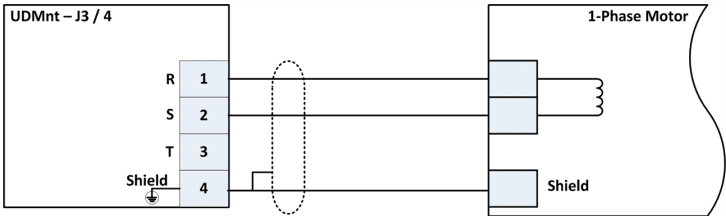
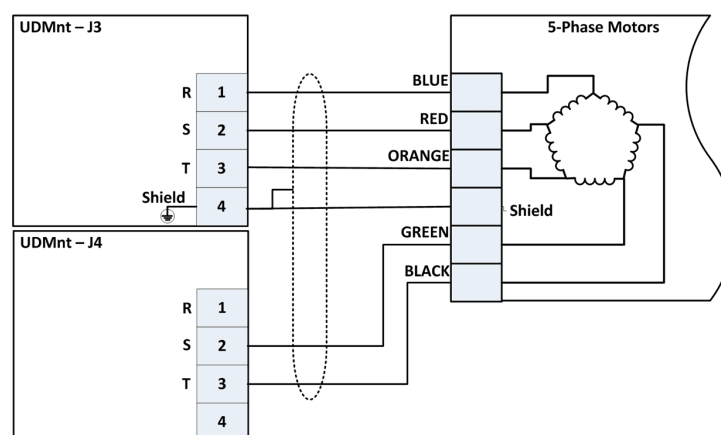

Figure 4-6. Single-Phase Motors (DC brush, Voice coil) Connections
Figure 4-9. Five-Phase Step Motor Connections (example of an Oriental Motor)
- > Single-phase (DC brush, moving coil), see Figure 4-6.
- > Five-phase (step motor. Consult company), see Figure 4-9.
1. Connect the motors to J3 and/or J4 according to Figure 4-6 through Figure 4-9.